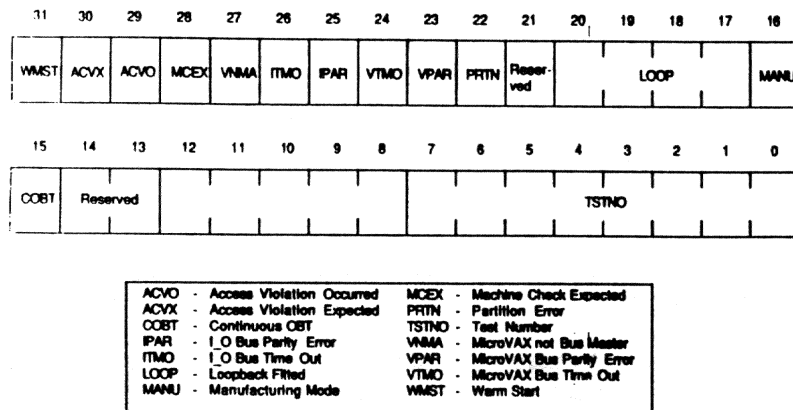

Figure 12-1: The OBT Status Longword (R11)
12.2.7.3 OBT Status Longword (R11) - The OBT maintains status information in the MicroVAX register R11. Figure 12-1 shows the format of this word, and Table 12-1 explains the meaning of each field.